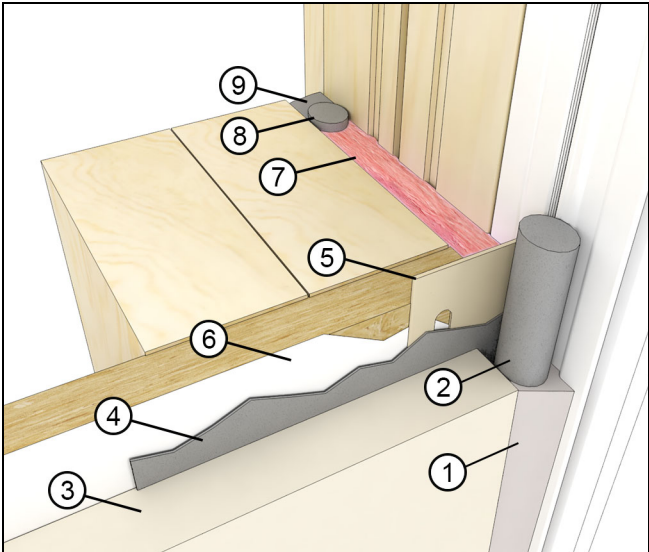

Figure 60
1. For ALL applications: Once the exterior finish such as siding or brick veneer is installed, apply bead of sealant between the finish and the frame exterior or casing along the sides. Apply additional beads approximately 1"- 2" (25-51) at the ends on top of the drip cap. Use a backer rod when necessary. See Figure 60 and Figure 61.